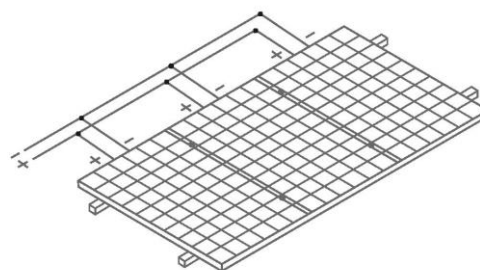

Figure 6 Connection in parallel
- When connected in parallel, the current output is equal to the sum of each string's current (as shown in Figure 6). Fuse is necessary for each module string. Take reference to the local regulation. Recommended maximum parallel Modules configurations: Fuse rating/ (1.25* short-circuit current).